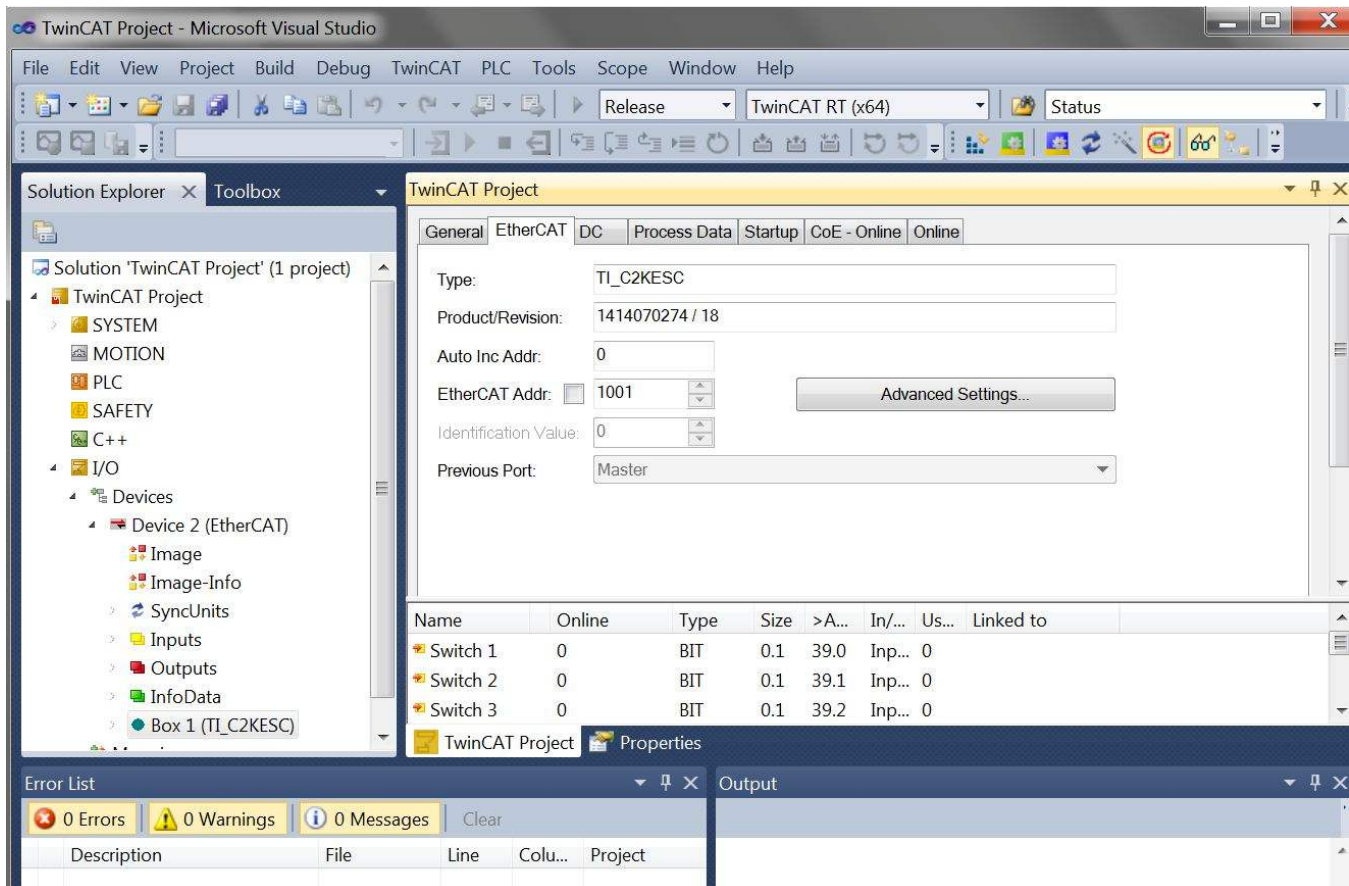

Figure 26. TwinCAT Project EtherCAT Tab
1. After starting up the TwinCAT software in Section 3.1, the screen should look something like Figure 26. Double clicking the EtherCAT slave (labelled “Box 1” in the figure) brings up the EtherCAT properties window on the right. Click “Advanced Settings”.